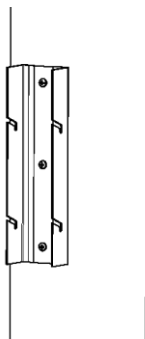

Figure 1
1. Mount the installation bracket to the pole using ¼-20 screws or lag bolts according to your company's standard practice. (Figure 1).